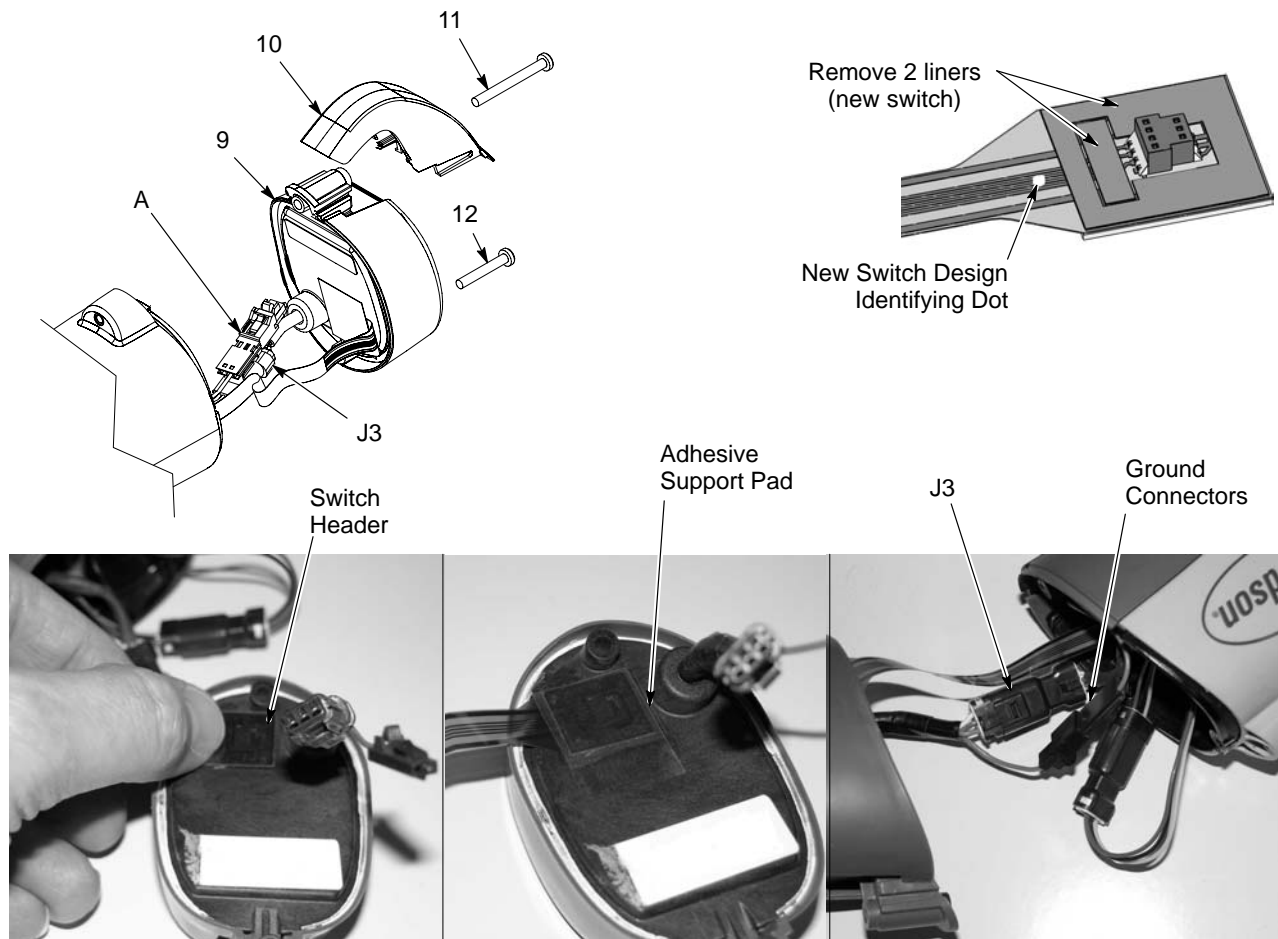

Figure 5-1 Display Module Replacement
1. See Figures 5-1, 5-3, and 5-4. Unscrew the top (M3 x 30) screw (11) holding the hook (10) and display module (9) onto the gun body.
3. Unscrew the bottom (M3 x 20) screw (12) (display module to gun).
5. Disconnect the display module ground connector (A). This ground cable has been added to provide a separate ground for the display module. It is connected to the barbed fitting in the handle base. Older units will not have it. Refer to *Parts* for the new display module kit.
1. See Figure 5-1. Remove the display module as described in *Display Module Replacement*.